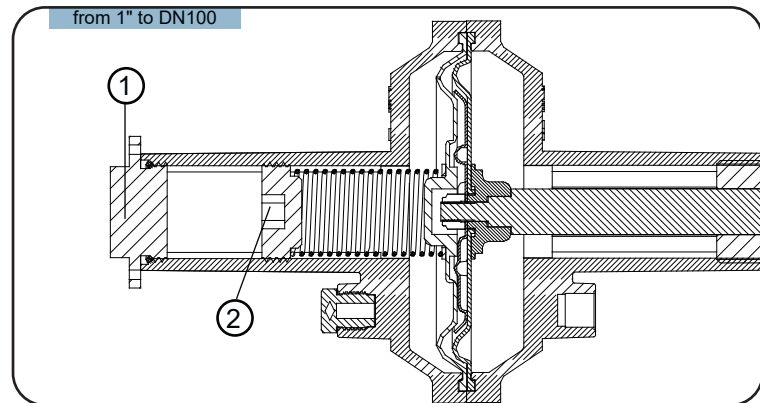

Fig.2
Unscrew the **regulation cap** ① to access the **spring presser** ② Fig.2.